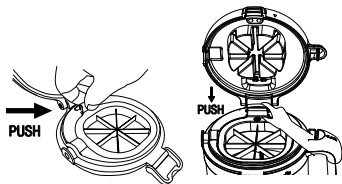
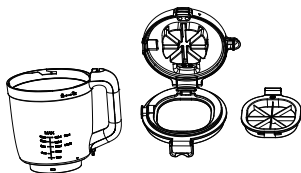

Fig.25
Fig.26
1. After opening the chopper lid, first grab the handle of the chopper blade and lift it upward to remove it (see Fig.25).
2. Rotate the chopper lid without the blade counterclockwise to remove it from the cup body (see Fig.26)
3. Then, install the blending blade assembly into the cup (see Fig.25). Hold the blending blade assembly with your left hand and pass the bottom of the assembly through the hole at the bottom of the cup. With your right hand, hold the rotating lid and insert it through the bottom of the blending cup, then turn it clockwise until you hear a “click” (see Fig.26).